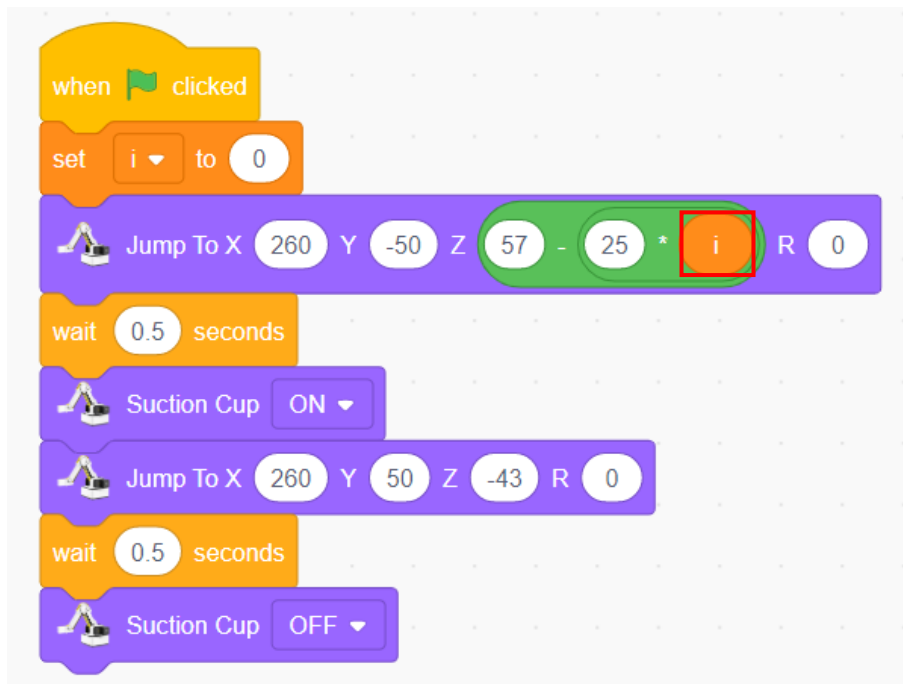

Figure 2.30 Variable "i" blocks
- 3) Click the "**Variables**" tab, drag the variable "i" to the code area, and fill it in the right oval of the operator "*", as shown in Figure 2.30.